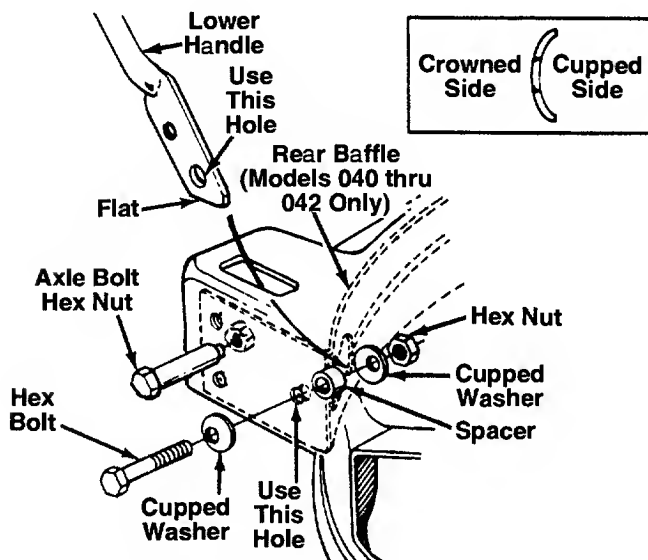

FIGURE 1.—Models 040 thru 042 Shown
**NOTE: ALL MODELS—**The handle on your mower can be adjusted to two different height settings. To raise the height of the handle attach the lower handle so that the flat part of the handle is facing downward, as shown in figure 1 and 1B. To lower the height of the handle rotate handle so that the flat part of the handle faces upward.
2. **Models 040 through 042 only:** Place the rear baffle in position inside the rear of the deck. Use one axle bolt and hex nut on each side of the rear of the deck to secure baffle temporarily so you can attach the lower handle. See figure 1.